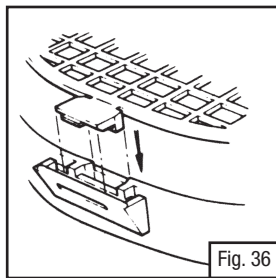

Fig. 36
4. Place the inner grill and the prefilter back into the motor housing and close the outer grill. Ensure that the outer grill hinge is positioned in the recess at the rear of the motor housing assembly (Fig. 36).